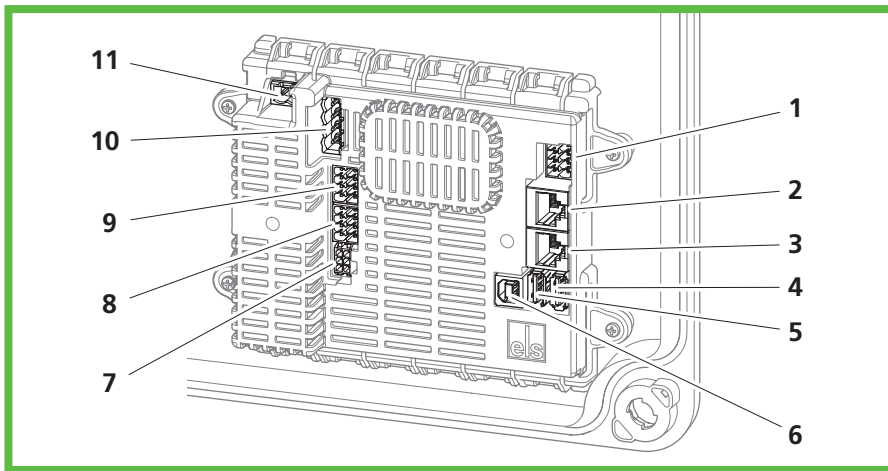

Abb. 6: Charge controller connections
- Connect the LAN cable to the LAN connection socket LAN-1 in the cover (Abb. 6 No 3).